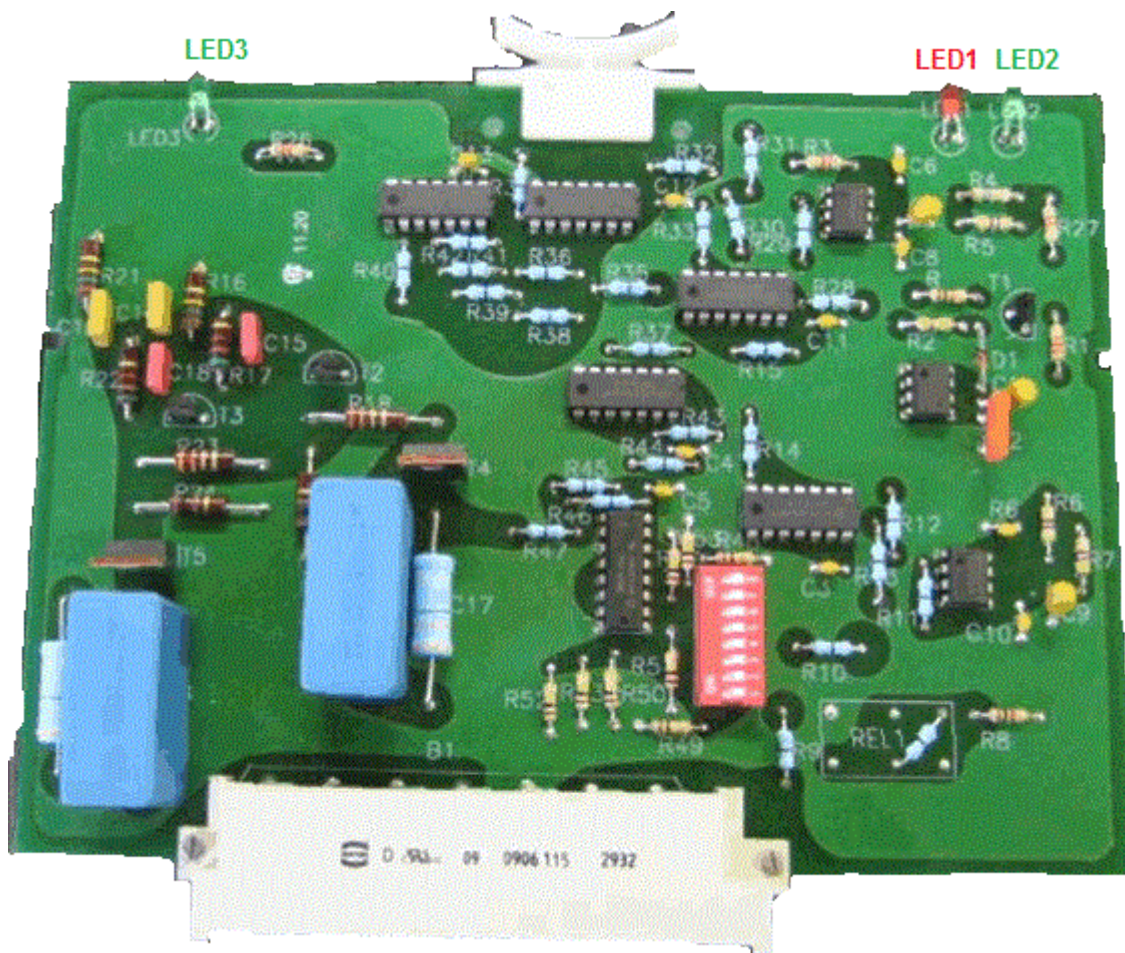

FIGURE 4-1. TRIGGER CONTROL PRINTED CIRCUIT BOARD
Make the interconnects between the external photocell and the power supply. The wires in this cable are connected to **TB1** per *Figure 4-1* as follows.
4.2.1. Trigger Control Printed Circuit Board P/N13866 (Figure 4-1 page 14)